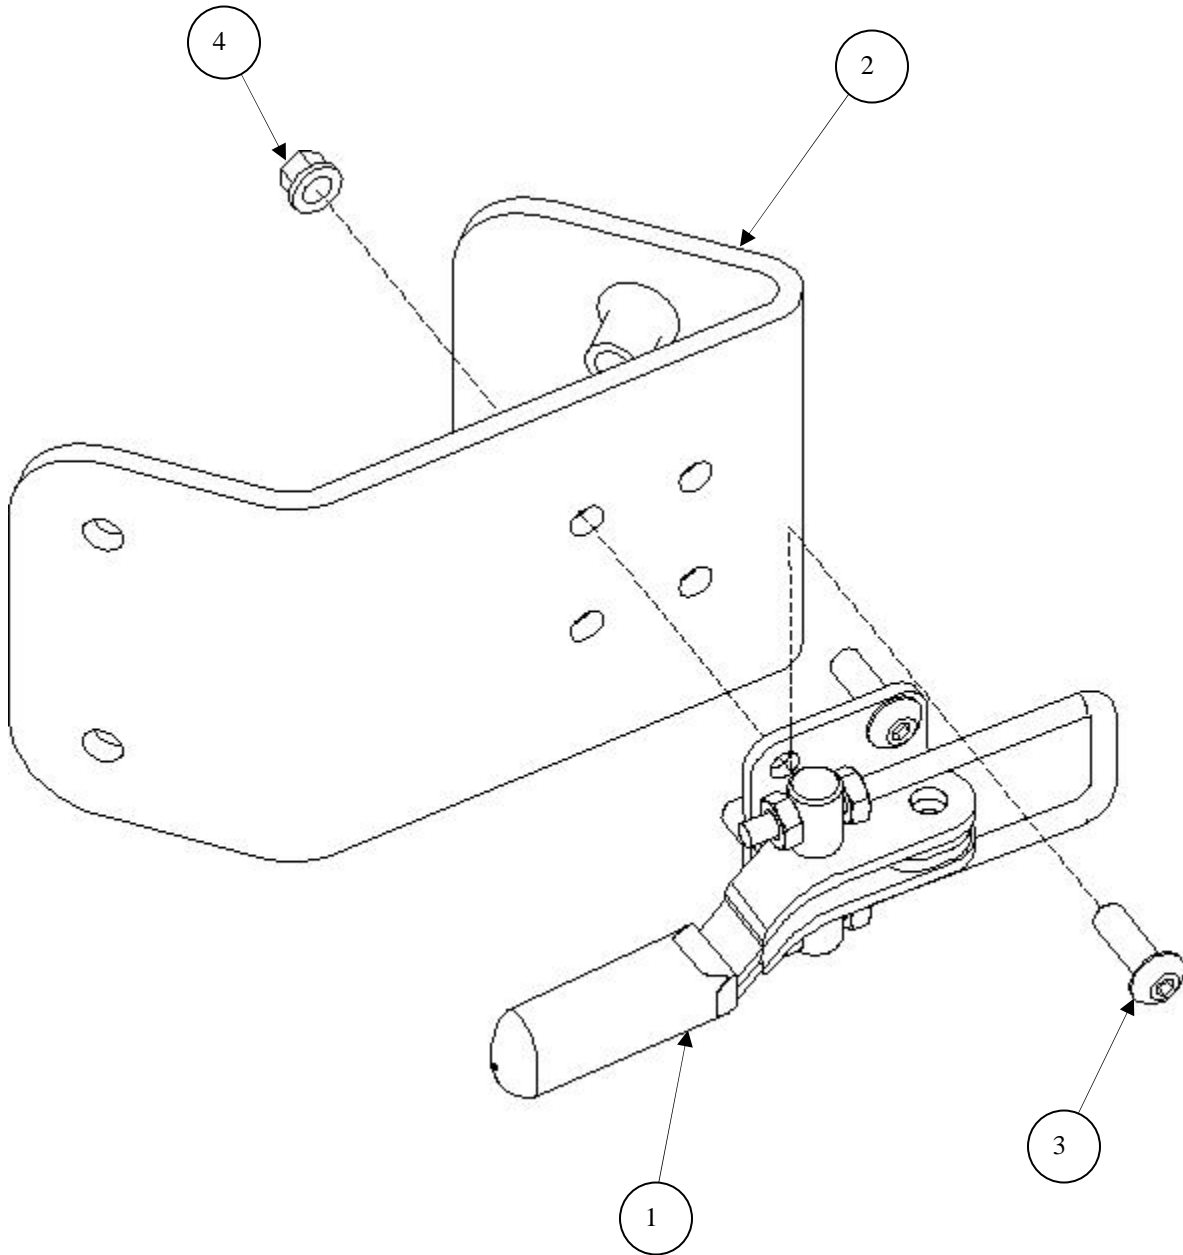

Figure 3-84. Escape Hatch Mounts Pre-Assembly.
1. Pre-assemble escape hatch mounts as follows (see Figure 3-84):
- a. Install one Destaco clamp (1) to each of the four escape hatch mounts (2) and secure each with four screws (3) and locknuts (4). Torque locknuts to 36 lb-inch.